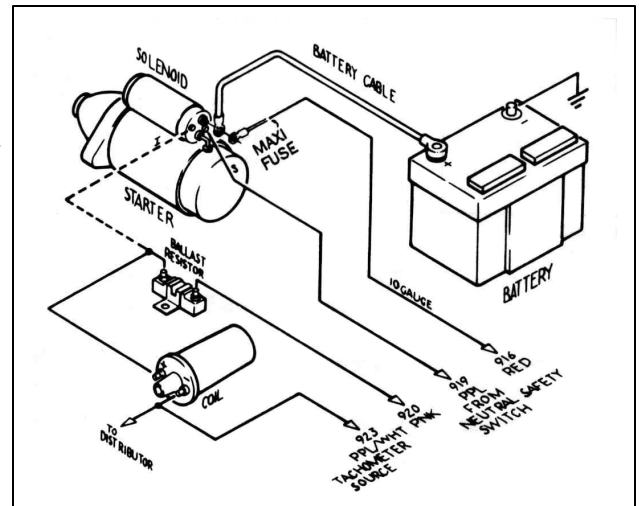

Figure 7-6A GM Ignition (Start-Run) System
7.6 GM Ignition (Start/Run) System. See Figure 7-6A.
- 7.6.6** A 14-gauge wire connected from the Starter Solenoid Ignition (I) terminal to the ignition coil side of the Ballast Resistor is optional. This wire (the dashed line in **Figure 7-6A**) serves as a ballast resistor BYPASS during engine starting. However, if the starter solenoid shorts out, which is not unusual, the engine will stop running and will not restart as long as this wire is connected. You may therefore choose to omit it. If you are not using a Ballast Resistor, leave the Starter Solenoid Ignition (I) terminal unconnected and do not install the bypass wire.